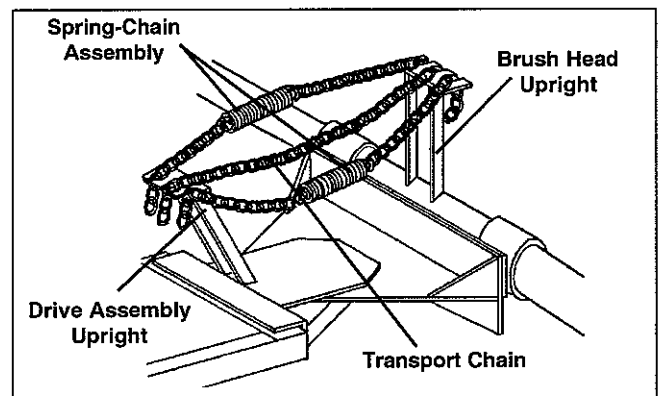

figure 22
- b. Adjust the spring-chain assembly (figure 22).
2. Tighten the transport chain (figure 22).